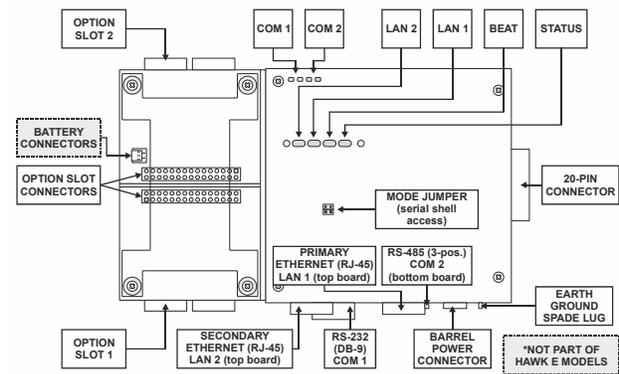

Fig. 7. HAWK board layout details.
Fig. 7 shows the location of LEDs, option slots, and other features of the HAWK with cover removed.
The HAWK has two (2) option slots for custom option cards designed for use with the HAWK. Each slot has a 30-pin connector on the HAWK base board (Fig. 7).
See Fig. 7 to locate connectors and other components on the HAWK controller.
NOTE: A green "receive" LED and yellow "transmit" LED are provided for each serial port. These LEDs are located on the bottom board, on the *opposite side* of the serial connectors (see Fig. 7). These LEDs are